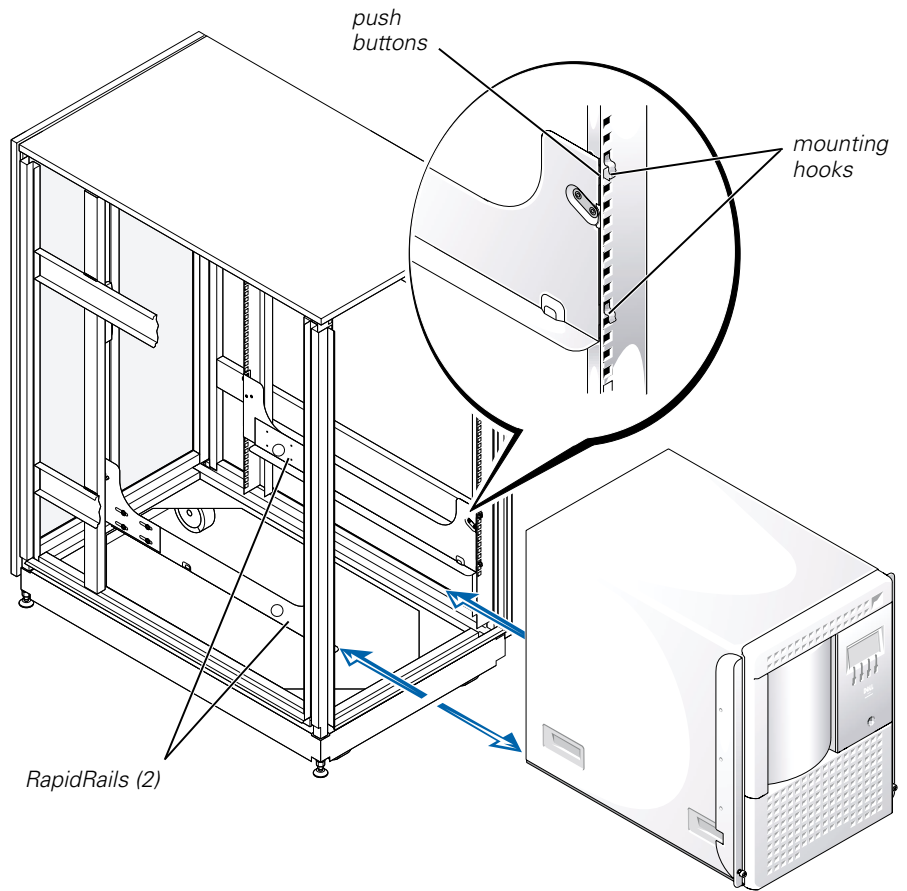

Figure 1-5. Installing the System in the Rack
2. Tilt the rear of the system upward and position on the RapidRails (see Figure 1-5).